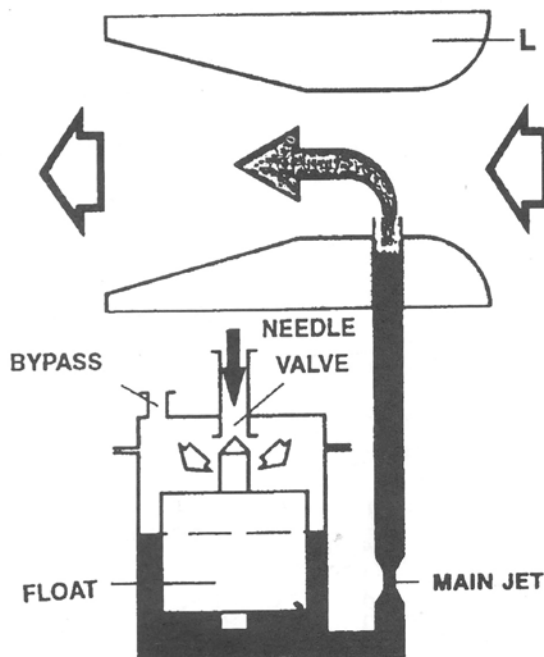

FIGURE 6
**FUEL LEVEL CONTROL:** Much more important than maintaining a constant level in the fuel (or float) chamber, our floats determine the height that the fuel attains in our main fuel metering tube (Figure 6). At the proper height, the pre vaporized fuel is easily "picked off" by the (suction) that exists in our venturi. A "too high" level in the tube will allow more fuel into the air stream than is desired, resulting in an overly enriched air/fuel mixture. A "too low" level produces "lean" mixtures.
**FUEL LEVEL:** In figure 6, you can see that the fuel stands higher in the metering tube than in the float chamber. The higher level in the metering tube is the result of pressure differential between the higher atmospheric pressure in the float chamber pushing against lower pressure in the metering tube when the engine is running and partial vacuum exists in the venturi. For a given constant RPM, metering tube fuel level is totally dependent upon float chamber fuel level—as determined by our float adjustment setting. If the level in the metering tube is too high, fuel will exit into the venturi at a much lower air velocity, resulting in the air/fuel mixture becoming enriched before it is supposed to—as in the low middle-to-higher RPM range. A too-low fuel level results in just the opposite. As fuel metering jets and jet needles also effect the above discharge rates, it is imperative that an exact pre-determined fuel level is maintained. If you find that a different fuel level improves performance or economy, rest assured that your jetting is improperly set. Two types of floats are used in Bing Carburettors (1) the single element brass float in the early side-bowl carburettor and (2) the double element plastic float found in the centered-bowl carburettor. The brass float is not adjustable, its height is fixed by a notch in the float needle. Resetting single element float height is carried out by replacing the worn float needle, and in the case of extremely high wear, the float chamber cover that contains the needle seat. Double element floats may be adjusted to compensate for float needle/seat wear by resetting the float pointer after replacing the worn needle. This needle seat may also be replaced. Correct float adjustment is achieved in the following manner (See Figure 7).